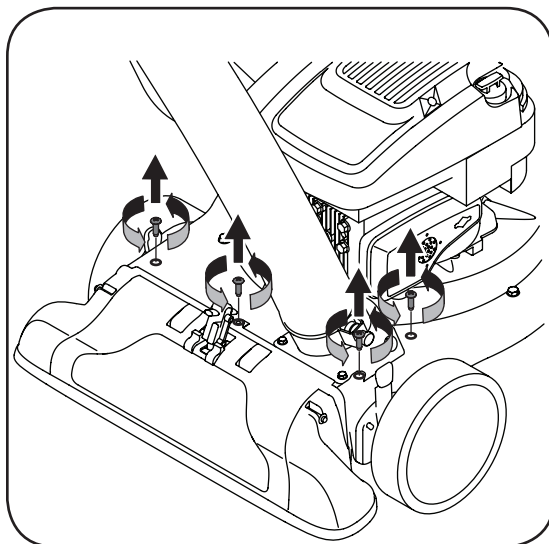

Figure 5-5
6. Remove the four screws on the upper housing that secure the nozzle cover. See Figure 5-5.